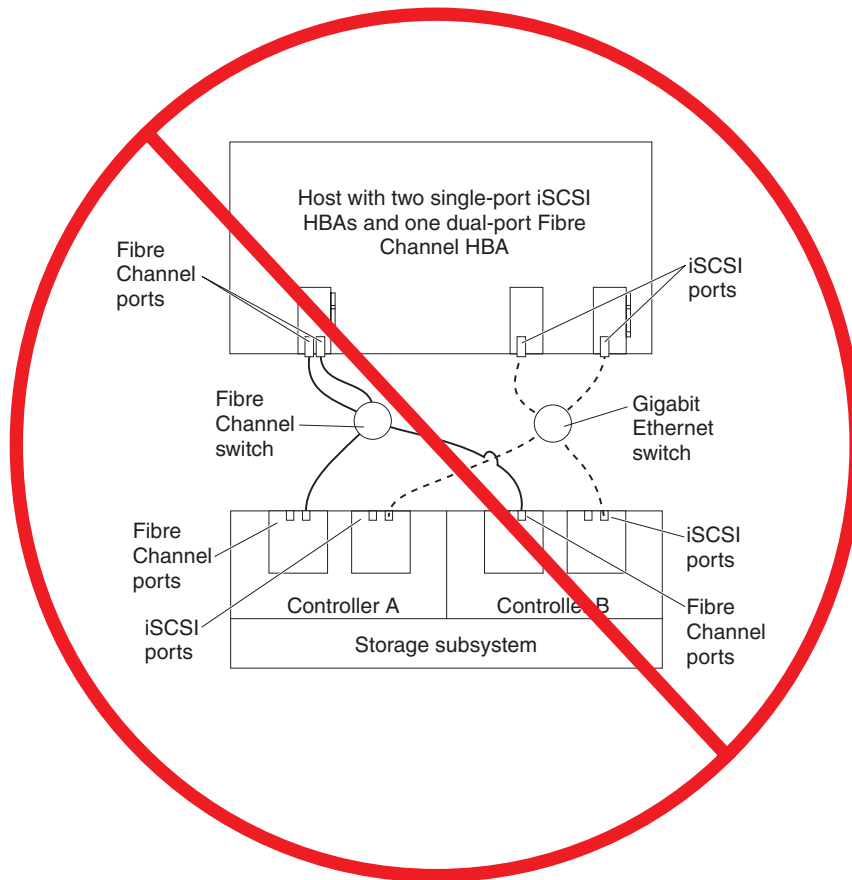

Figure 63. Example of an incorrect configuration: Single-host, iSCSI and Fibre Channel
- Example of an incorrect configuration: Single-host, iSCSI and Fibre Channel, as shown in Figure 63 on page 88
Figure 63 shows an incorrect configuration of a single host with both iSCSI and Fibre Channel connections.
Important: Do not cable the storage subsystem and host systems as shown in Figure 63. A storage subsystem with the incorrect storage topology might appear to be functional, but incorrect cabling can potentially have unpredictable results.